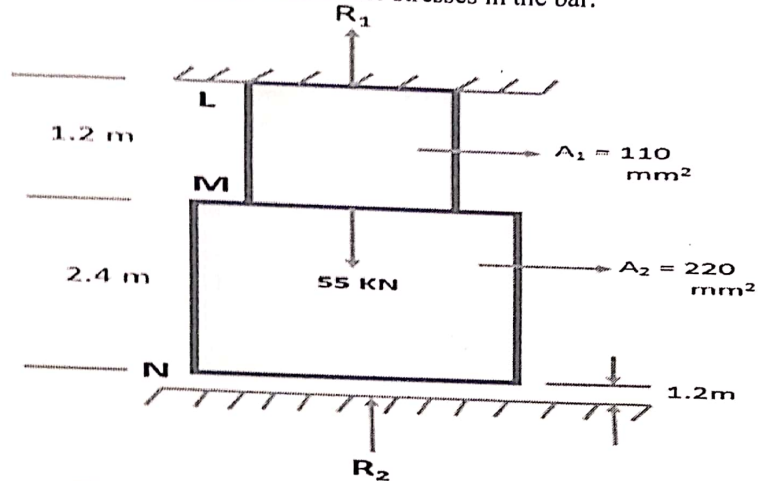

Figure Q3: Bar subjected to reaction forces and stresses
- (a) For the bar shown in Figure Q3, calculate the reaction produced by the lower support on the bar. Take  $E = 200 \text{ GN/mm}^2$ . Find also the stresses in the bar. (8 marks)